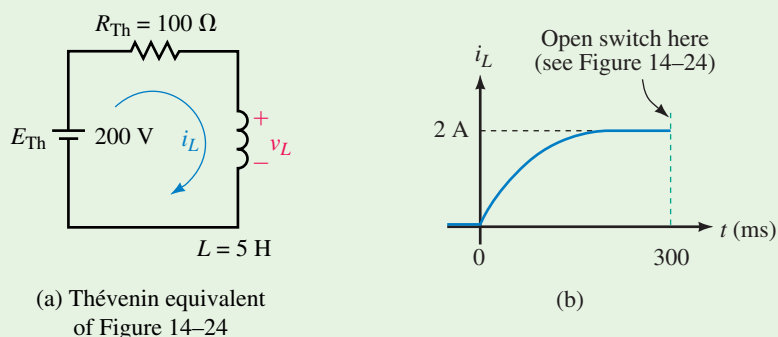
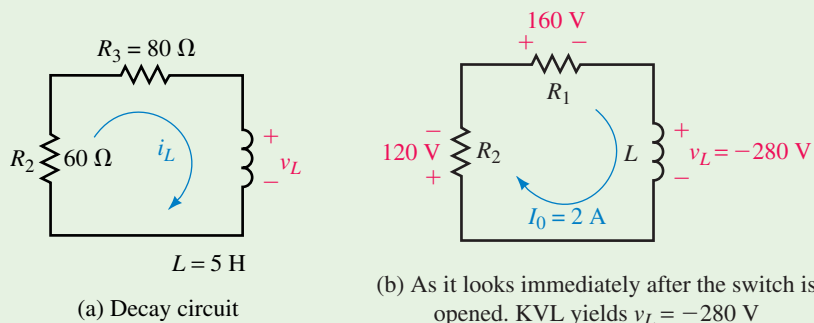

FIGURE 14-26 Circuit and current during the buildup phase.
FIGURE 14-27 The circuit of Figure 14-24 as it looks during the decay phase.
- b. Current buildup is sketched in Figure 14-26(b). Since $5\tau = 250$ ms, current is in steady state when the switch is opened at 300 ms. Thus, $I_0 = 2$ A. When the switch is opened, current decays to zero through a resistance of $60 + 80 = 140$ Ω as shown in Figure 14-27. Thus, $\tau' = 5 \text{ H}/140 \text{ Ω} = 35.7$ ms. If $t = 0$ s is redefined as the instant the switch is opened, the equation for the decay is
Now consider voltage. As indicated in Figure 14-27(b), the voltage across L just after the switch is open is $V_0 = -280$ V. Thus,